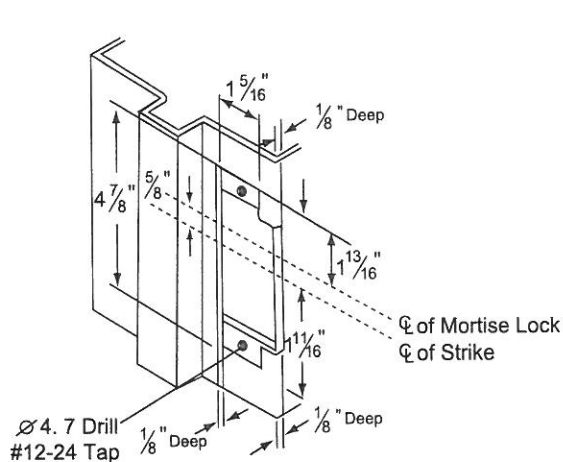

Figure 2-1
1. Install strike to drilled position on frame or inactive door and secure into place with supplier screws. (See Figure 2-1 and Figure 2-2.)